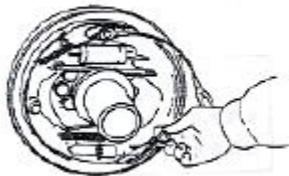

figure9
- (1) Apply brake fluid to the cup and piston of the brake cylinder and assembly the spring ,piston cup. piston and guard ring in order .
- (2) Install the brake cylinder on the brake floor.
- (3) Install the brake base plate on the drive axle.
- (4) Apply heat-resistant grease to each side as shown in, Be careful not to apply it to the insert
- (5) Parking brake cable is stuck with E-shaped retaining ring .
- (6) Install the brake shoe with a fixed spring ,as figure 9